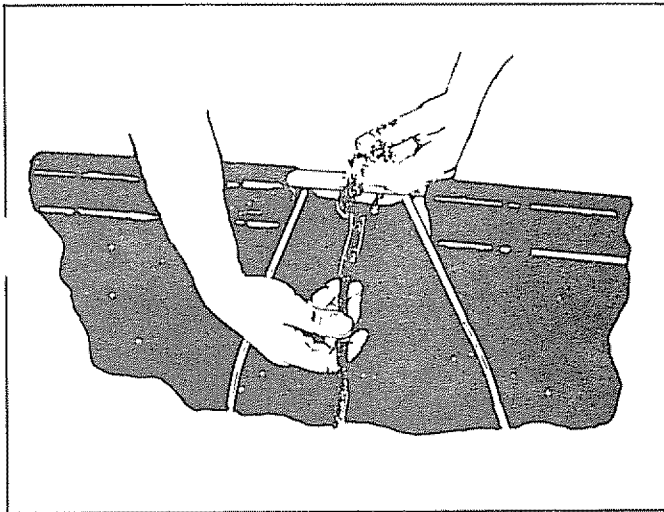

FIGURE 24
16. Secure the rope to the top center of hopper bag frame as shown in figures 24, and 25